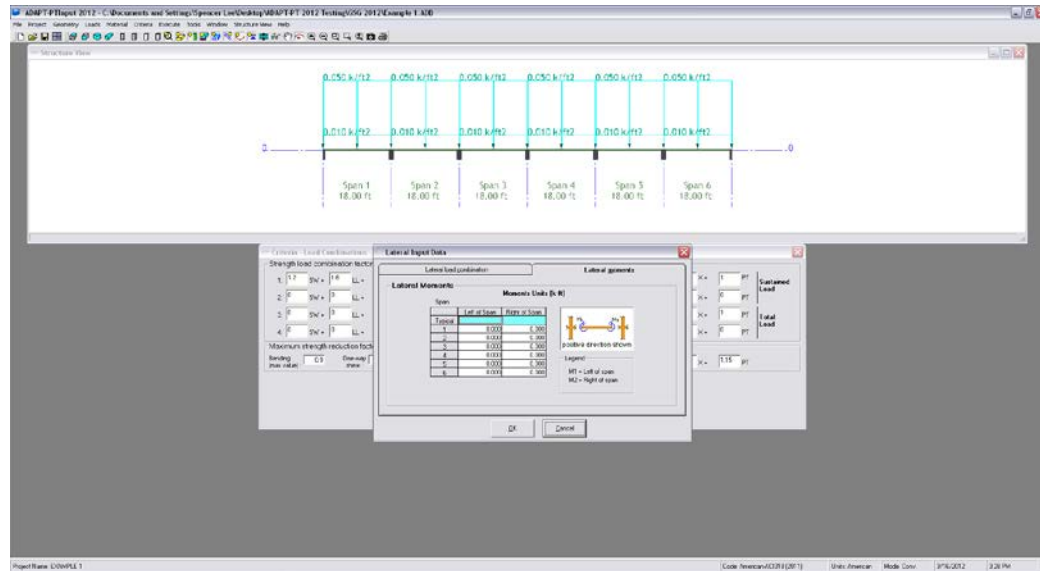
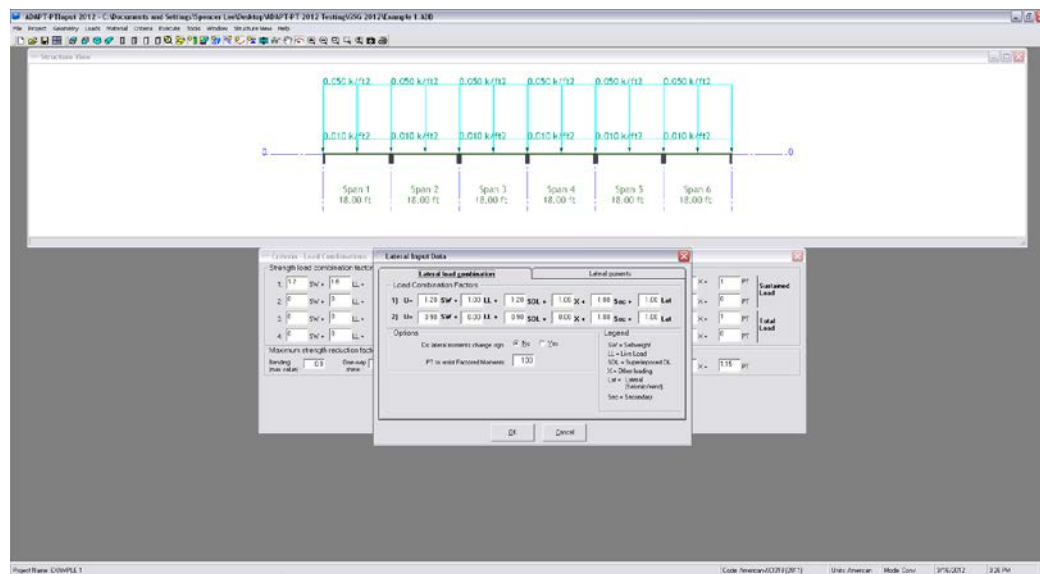

FIGURE 2.1-21
FIGURE 2.1-22
2.1.5.7 Input Load Combinations (Fig. 2.1-21, 22, 23)
New! Check the check mark to *Include lateral loads* and click on the *Set Values* button to define *Lateral moments* (**Fig. 2.1-21**) and *Lateral load combinations* (**Fig. 2.1-22**). ADAPT-PT 2012 now defaults to code prescribed load combinations including lateral loading. For this example, do not include lateral loads.